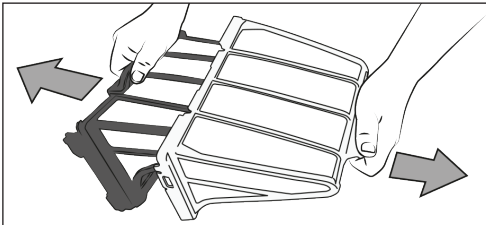

Figure 14. Remove Filter Canister
7. Remove the filter canister. See Figure 14.